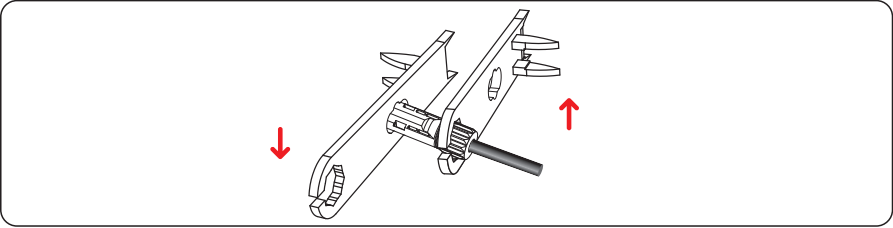

Figure 5.14 Locking connectors
**Step 4** Tighten the locking nuts on the positive and negative connectors using a removal wrench, as shown in Figure 5.14.